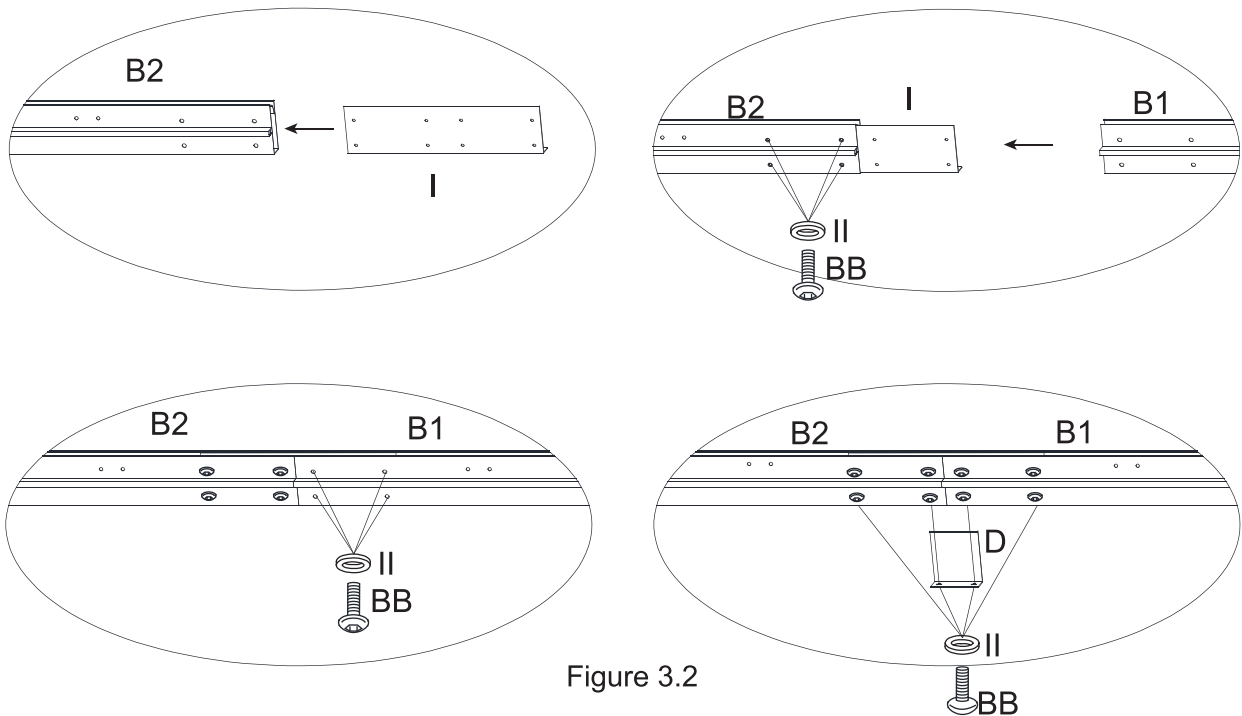

Figure 3.2
3.2. Connect the Left Lintel (B1) with the Right Lintel (B2) through the Lintel Connector -Large (I) by bolt (BB) and washer (II), then put the Lintel Cover - Center (D) onto the joint of the two lintels with bolt (BB) and washer (II), pay attention to install the screws based on the orders shown in the illustration. See Figure 3.2.